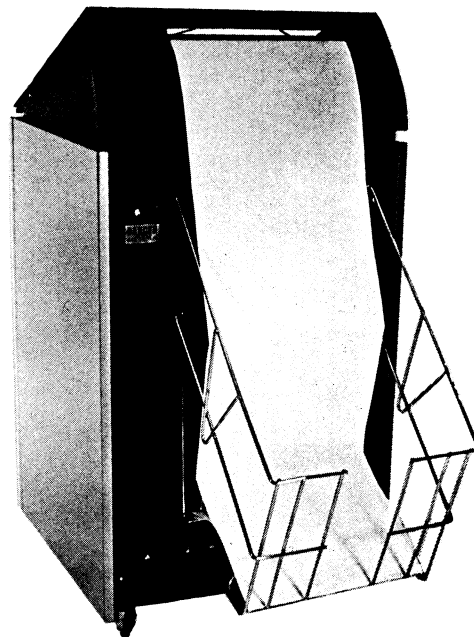

Figure 3-15 Location of Paper Receiver Basket
10. Mount the paper receiver basket on the rear of the machine as shown in Figure 3-15. Metal hangers are provided for the paper basket on the back of each machine.